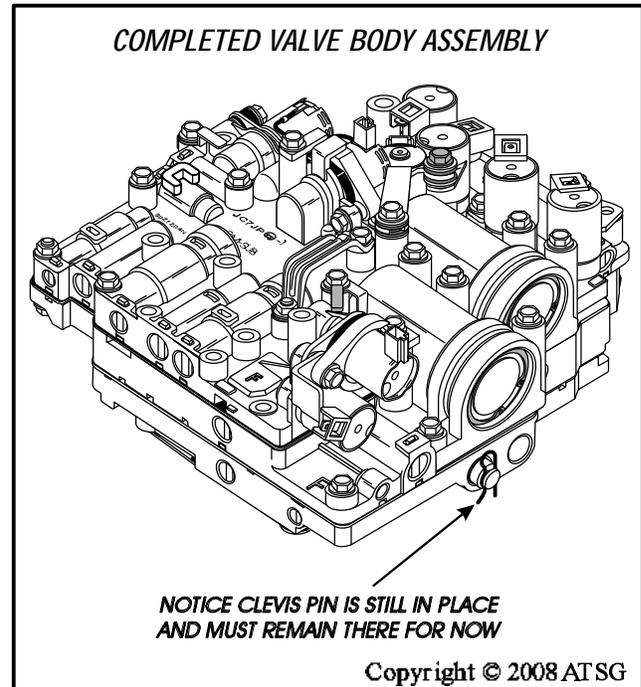

Figure 185
75. Set the completed valve body assembly aside, as shown in Figure 185, for the final transaxle assembly process.
Note: Notice in Figure 185, the clevis pin is still in place and must remain there until the valve body is installed onto the case, plus you haven't lost the manual valve yet.